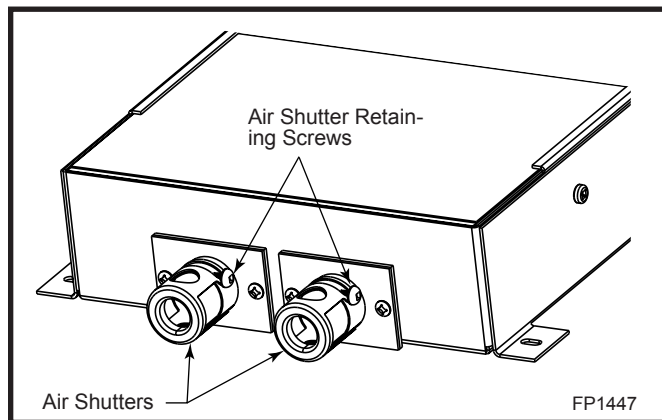

Fig. 47 Air shutter adjustment.
7. Remove the screws holding the air shutter to the burner tubes. (Fig. 47) Note the alignment of the air shutter on the tubes. Remove the air caps and replace them with the new air shutters supplied in the conversion kit.